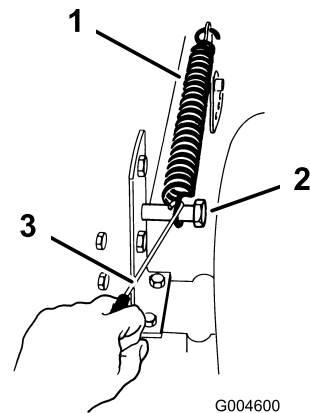

Figure 39
9. Remove the height-of-cut lift assist spring from the retaining bolt (Figure 39), using the spring tool provided with the tractor.
19. Hook the height-of-cut lift assist spring onto the retaining bolt (Figure 39) using the spring tool provided with the tractor.